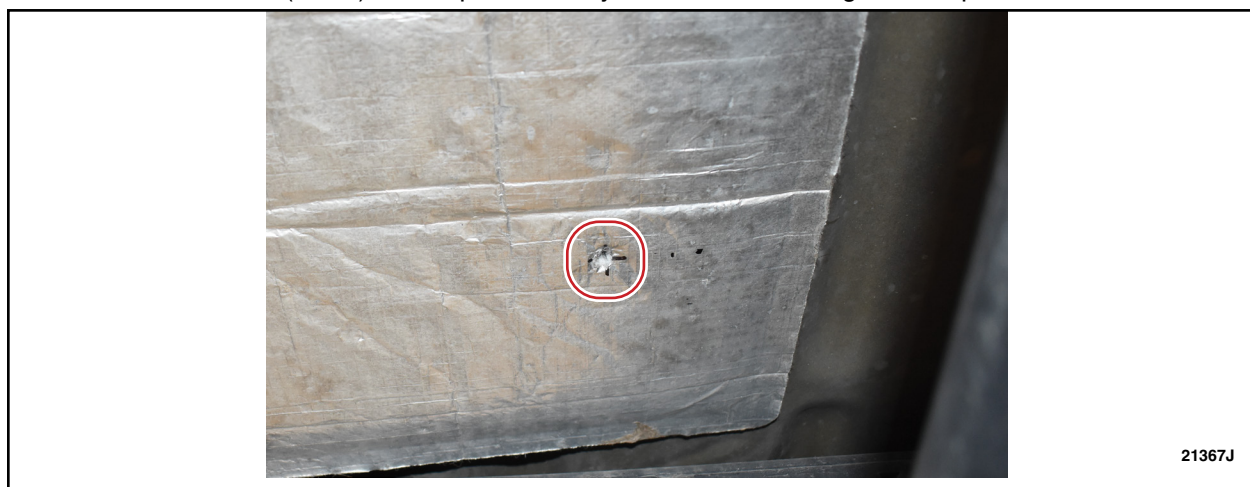

FIGURE 7
7. Use the 5.1 mm (13/64 in) drill bit for rivet part number W719880-S417 or the 6.7mm (17/64 in) drill bit for all other rivet part numbers to drill a hole through the insulator and into the floor. See Figure 7.